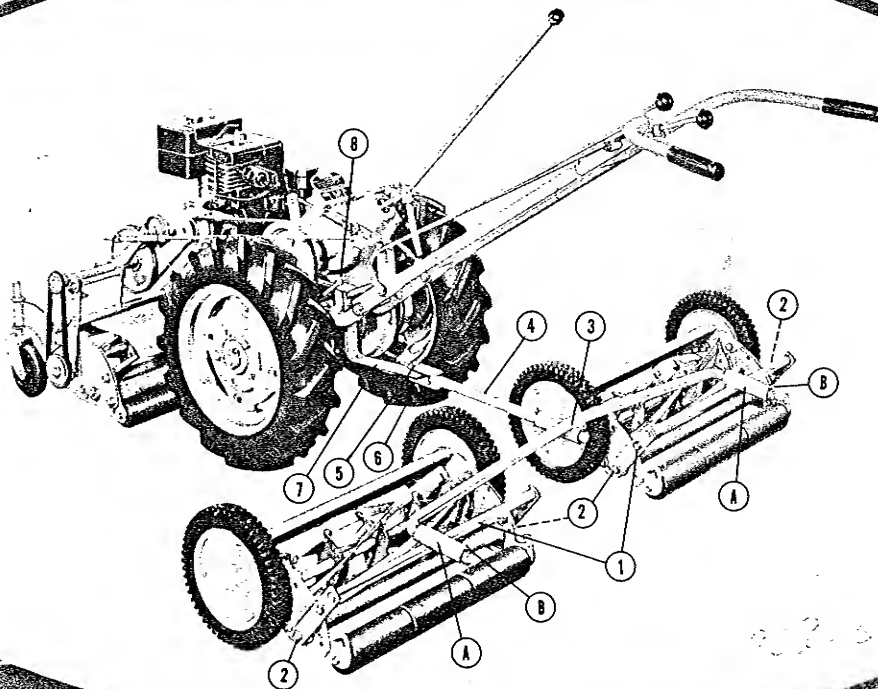

Fig. 1
2. Attach the two single draw bar assemblies (1, fig. 1) to gang companion mowers with four bolts, bushings and flat washers as shown at (2, fig. 1).
3. Attach double draw bar assembly (3, fig. 1) to single draw bar assemblies with cotter pins as shown. See note under operating instructions for proper assembly.
4. Attach tongue assembly (4, fig. 1) to double draw bar with cotter pins as shown.
5. Attach frame extension assembly (7, Fig. 1) to tractor with hitch pin (8, Fig. 1).
6. Attach complete unit to frame extension assembly (7, Fig. 1) with tongue pin (5, Fig. 1) and spring clip (6, Fig. 1) as shown.
Tubes (A, Fig. 1) are welded to the single draw bars off-center. When 24" front mounted mower is used single draw bars should be assembled to the double draw bar (3, fig. 1) with tubes nearer the outside wheel of the gang mowers. When 30" front mounted mower is used single draw bars should be assembled to the double draw bar with tubes nearer the inside wheel of the gang mowers.
2. Combination sulky or standard sulky can be used with the gang companion mower. Sulky is attached to frame extension (7, fig. 1) with hitch pin, furnished with the sulky.